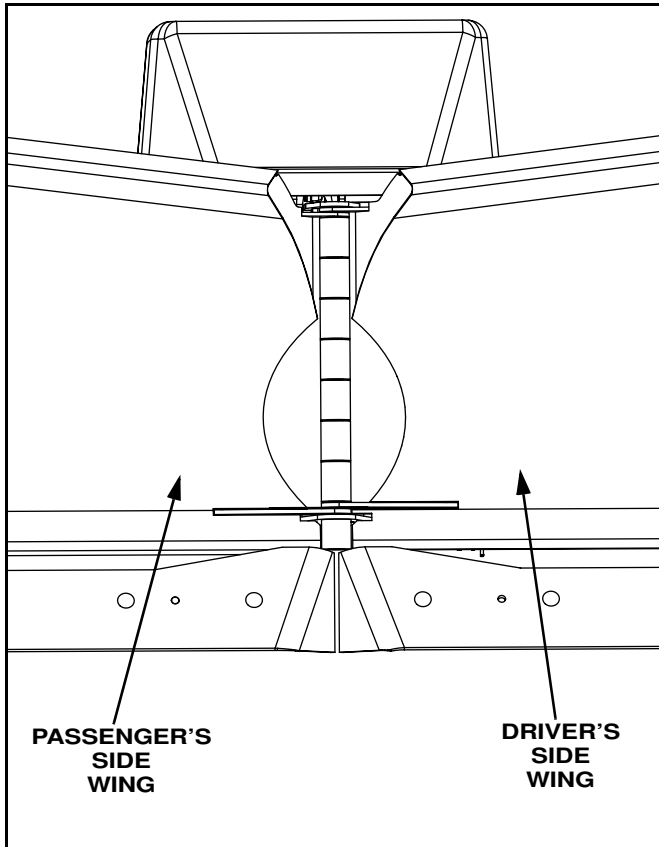

Figure 1-7
16. Insert the passenger side wing in the A-frame/tower. The bottom hinge plate should sit on top of the bottom plate of the A-frame/tower. (See Figure 1-7)
17. Insert the driver side wing into the A-frame/ tower. The bottom hinge plate of the driver side wing should sit on top of the bottom hinge plate of the passenger side wing. (See Figure 1-7)